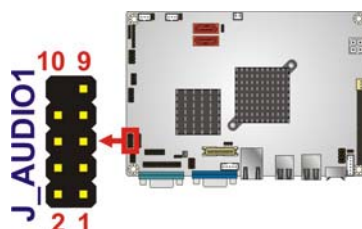

Figure 3-6: Audio Connector Pinouts
- CN Location:** See **Figure 3-6**